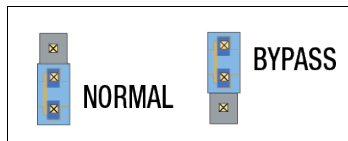

Figure A-5. Bypass/Normal Jumper Positions
1. Place the Bypass/Normal Jumper in the Bypass position (see Figure A-5).
8. Place the Bypass/Normal Jumper in the Normal Position (see Figure A-5).